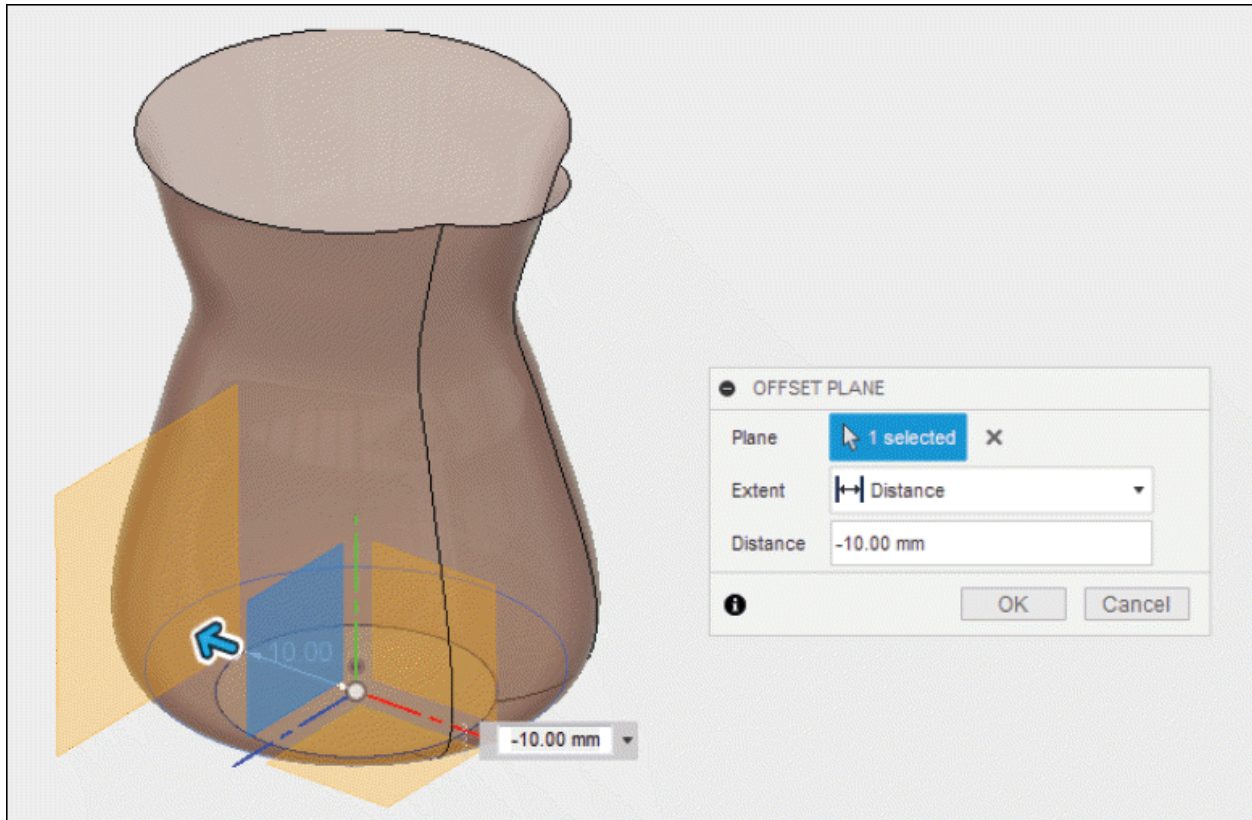

Figure-85. Creating sixth offset plane
- Click in the **Distance** edit box and specify the value as **-10**; refer to Figure-85.